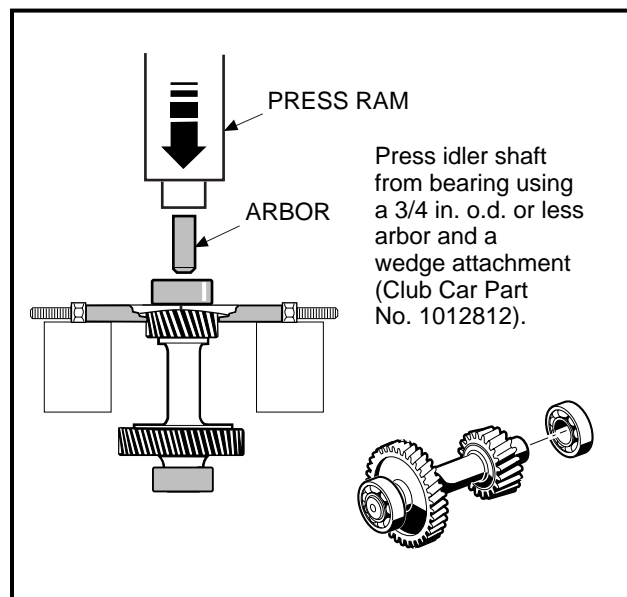

Figure 16-51 Remove Bearing
1. Place a bearing puller wedge attachment (Club Car Part No. 1012812) between the bearing (66) and the small gear on the idler shaft (65) (**Figure 16-42, Page 16-18**), then press the bearing off the shaft as shown (**Figure 16-51, Page 16-22**). See following **CAUTION**.